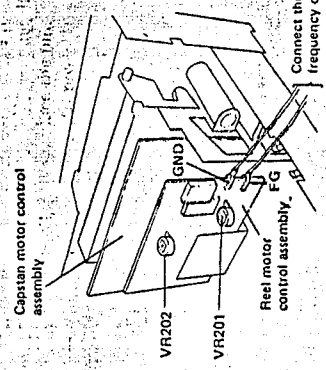

Fig. 12-5 FF/REW Rotating speed adjustment
1. Connect a frequency counter between the FG and GND terminals on the reel motor control assembly (see Fig. 12-5).